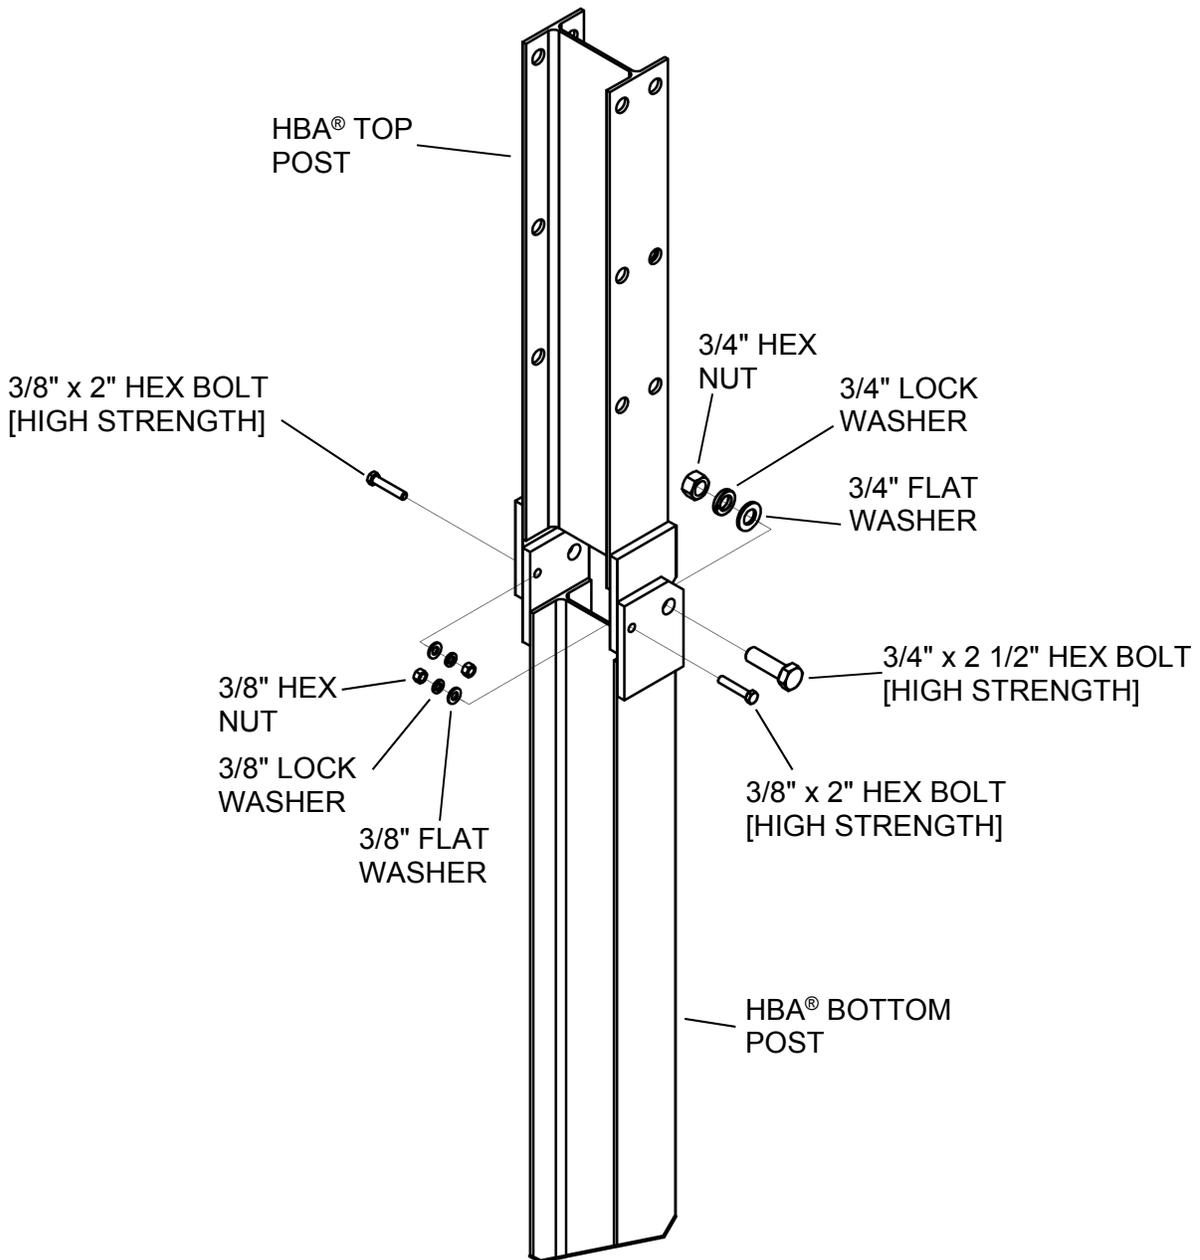

Figure 9 - Post 1 Assembly
- 2.5 Insert the HBA® Top Post into the HBA® Bottom Post. Bolt these Posts together first using (1) 3/4" x 2 1/2" hex bolt, (1) 3/4" flat washer, (1) 3/4" lock washer and (1) 3/4" hex nut, then using (2) 3/8" x 2" hex bolts [High Strength], (2) 3/8" flat washers, (2) 3/8" lock washers and (2) 3/8" hex nuts as shown in Figure 9. The 3/4" x 2 1/2" hex bolt [High Strength] must be fastened through the HBA® Top Post and HBA® Bottom Post on the side opposite the Angle Strut (refer to Section 3.0 Angle Strut Assembly).